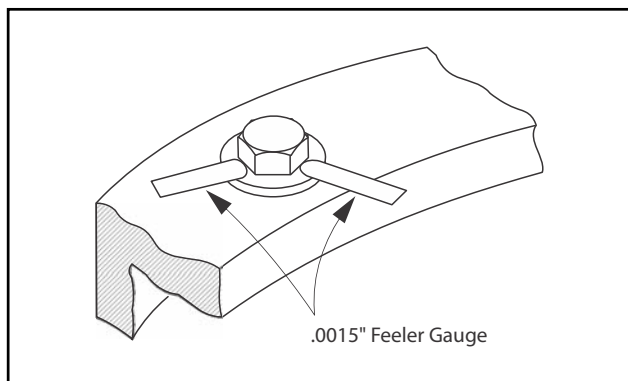

Figure 3-57. Swing Bearing Bolt Feeler Gauge Check
- b. Try and insert a 0.0015" feeler gauge between bolt head and hardened washer at position shown in Figure 3-57.
- b. try and insert a 0.0015" feeler gauge between bolt head and hardened washer at positions shown in Figure 3-57.
- d. Try and insert the 0.0015" feeler gauge between bolt head and hardened washer at position shown in Figure 3-57.